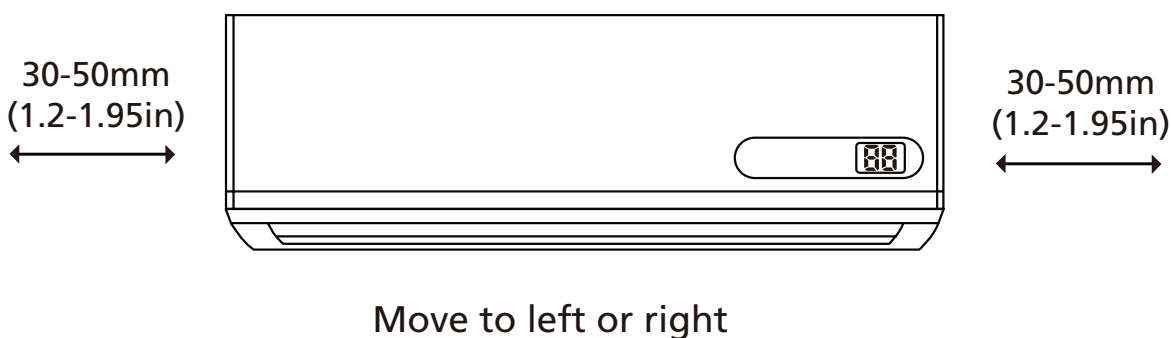

**Fig. 3.11**
2. Use a bracket or wedge to prop up the unit, giving you enough room to connect the refrigerant piping, signal cable, and drain hose. Refer to **Fig. 3.11** for an example.